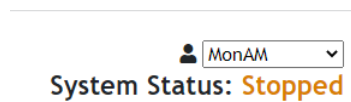

Figure 4: BUMES Change User
2. Locate the user drop down menu, shown in detail in Figure 4. Select the user corresponding to your lab section. The current user will appear at the top right of the interface.